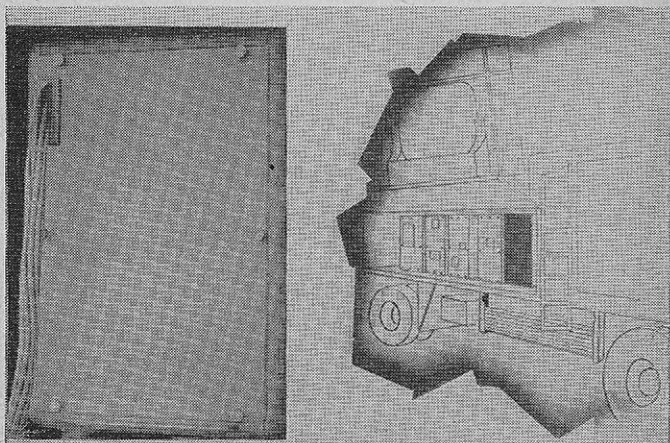

FIGURE 22.—Input servo amplifier.
■ 20. **INPUT SERVO AMPLIFIER.**—This unit (fig. 22) actually contains three separate amplifiers, one each for range, azi-